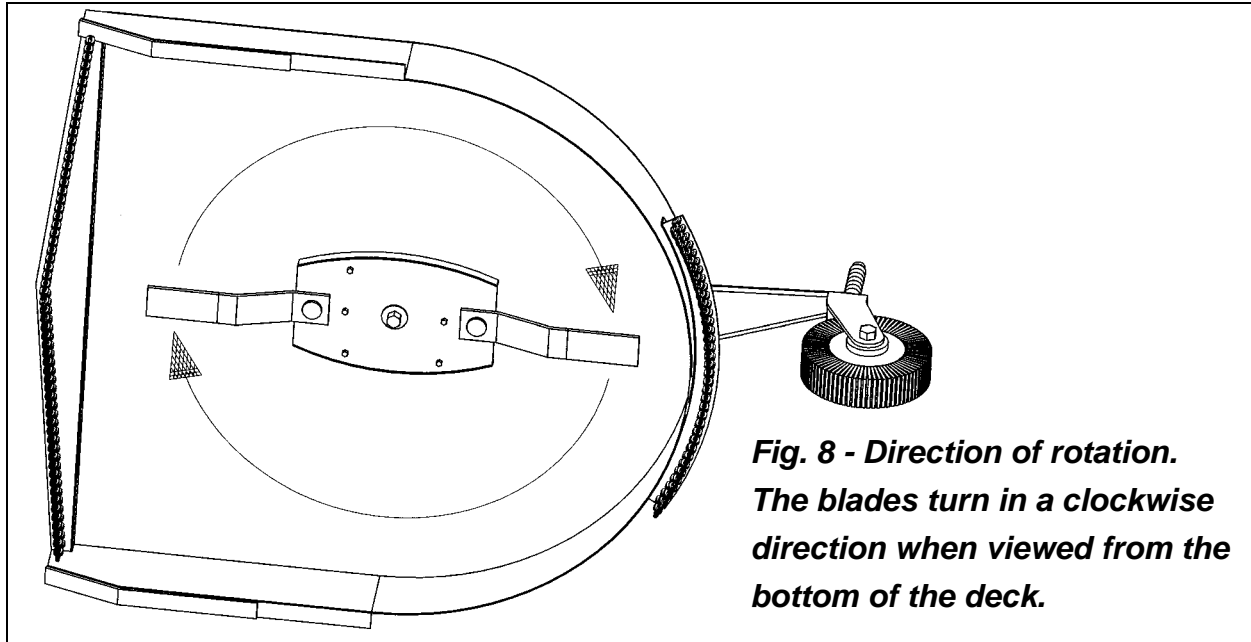

Fig. 8 - Direction of rotation.
5. Place the new blade making sure that the cutting edge is towards the direction of rotation. The blade turns in a clockwise direction when viewed from the bottom of the deck (**see fig. 8**).